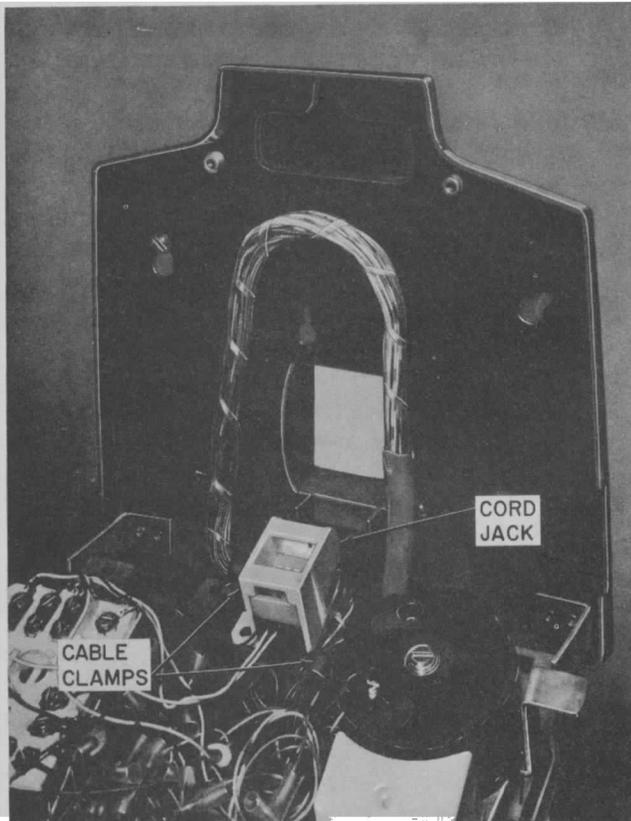

Fig. 8—Inside Wiring Cable, Exposed Wiring
- (4) Form slack loop as shown in Fig. 8 or 9 and install first clamp in hole to left of cord jack.
- (5) Route cable below jack and install second clamp in hole to left of ringer.
- (6) Twist ends of conductors together and feed through opening between dial, ringer, and connecting blocks.